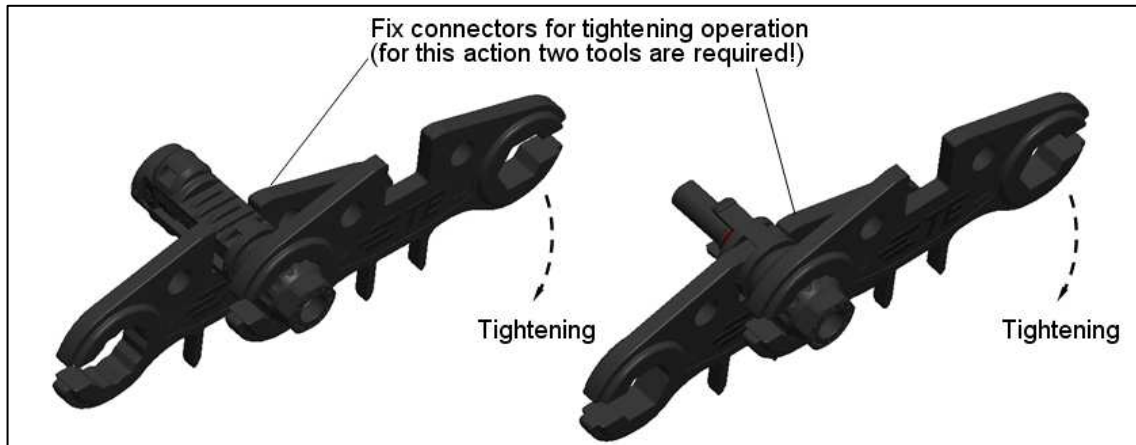

Figure 14
- For installation application, the opening tool can be used for tightening operation in **Figure 14**